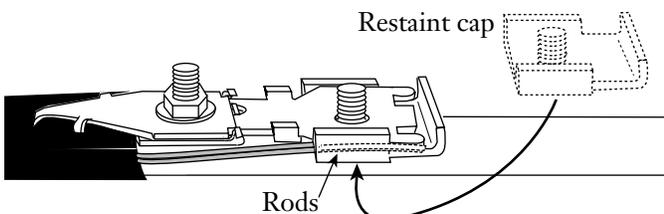

Figure 20
- g) Install the restraint cap by inserting its threaded stud through the support plate. Position the metallic rods between the restraint cap and support plate (Figure 20).